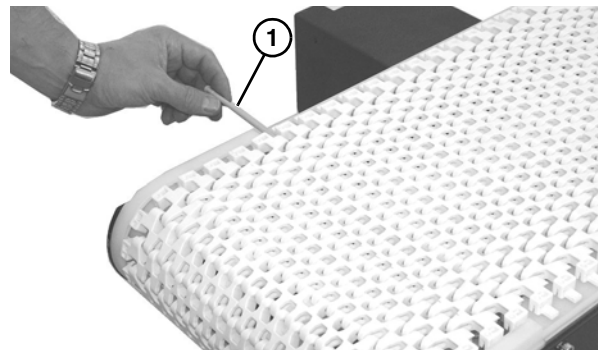

Figure 17
1. Use a punch and hammer to push the belt rod (Figure 17, item 1) out by striking the rod end opposite the retaining head.